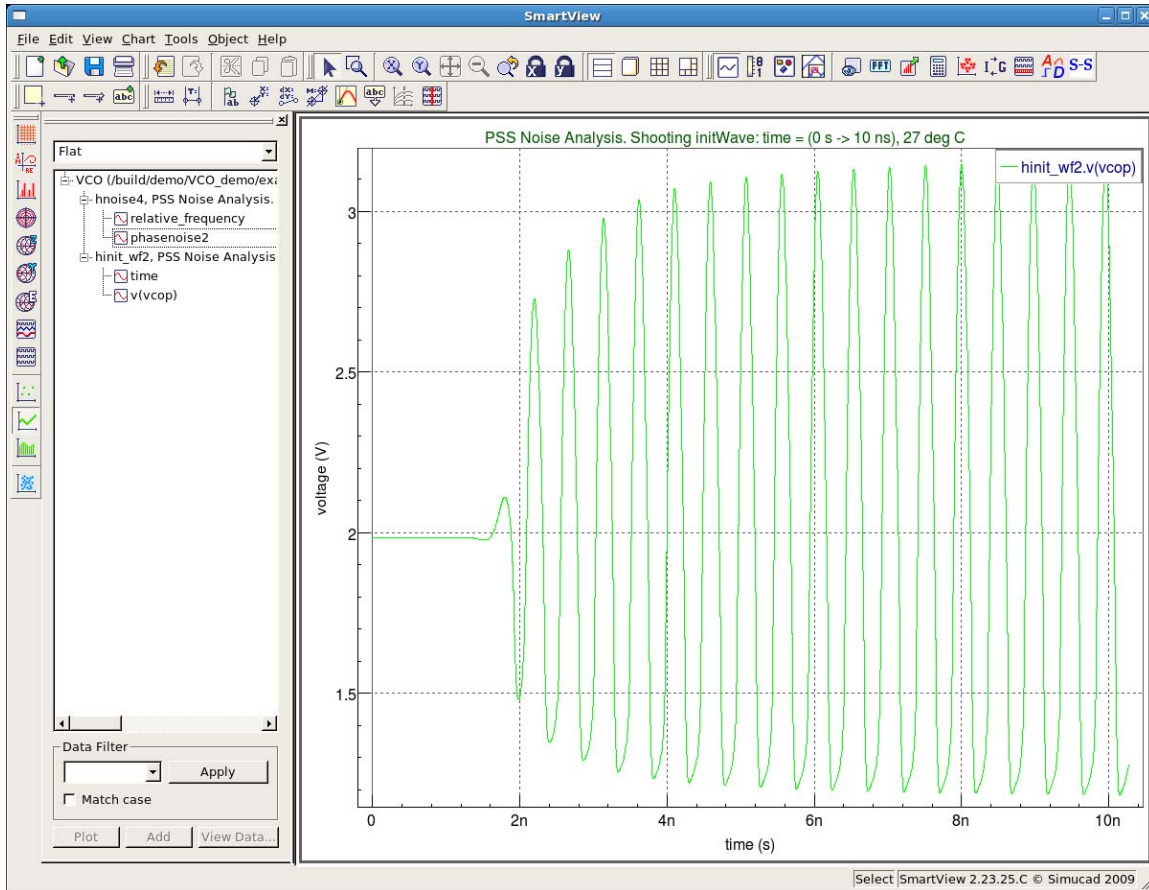

Figure 10: V(vcop) Waveform for Tuning Voltage of 1.5 V
3.3: Remember we've added the "saveinit" flag into .HNOISE statement to save results of Initial Transient analysis of the Shooting method? OK so let's see what the start-up behavior of the oscillator looks like. In Data Browser Panel, select "hinit_wf2" plot, then select vector "V(vcop)" and click **Plot**. Figure 10 shows waveform at the oscillator node vcop for tuning voltage of 1.5V.